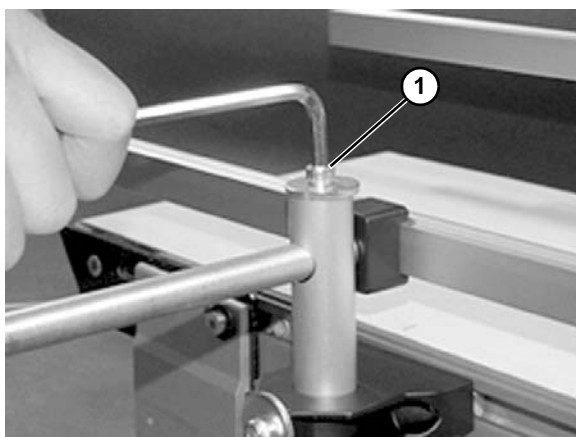

Figure 74
6. Adjust rail width with top screw (**Figure 74, item 1**).